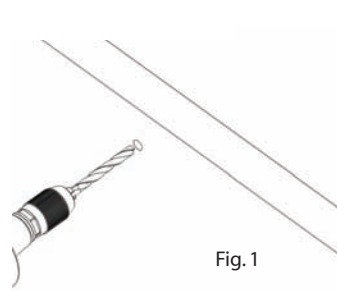

Fig. 1
1. Make sure there is at least 0.75" of clearance from the face of the mounting surface. If not the LED fitting will not seat properly. (Fig. 1)
2. Use the provided drill bit or a 23/64 (9mm) bit to drill the mounting hole. (Fig. 1)